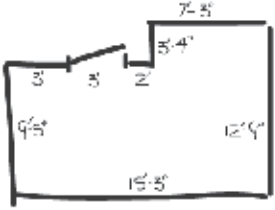

Figure 1
- Draw a floor plan of your room. (Figure 1)